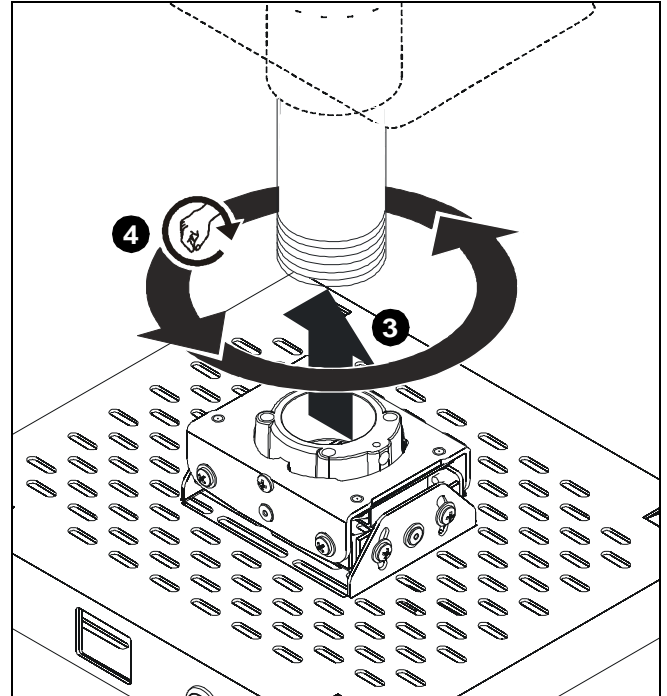

Figure 2
3. Align MSP-RPAA2W outer sleeve with end of NTP pipe. (See Figure 2)
4. Thread MSP-RPAA2W sleeve up onto pipe by turning counterclockwise until hand tight. (See Figure 2)